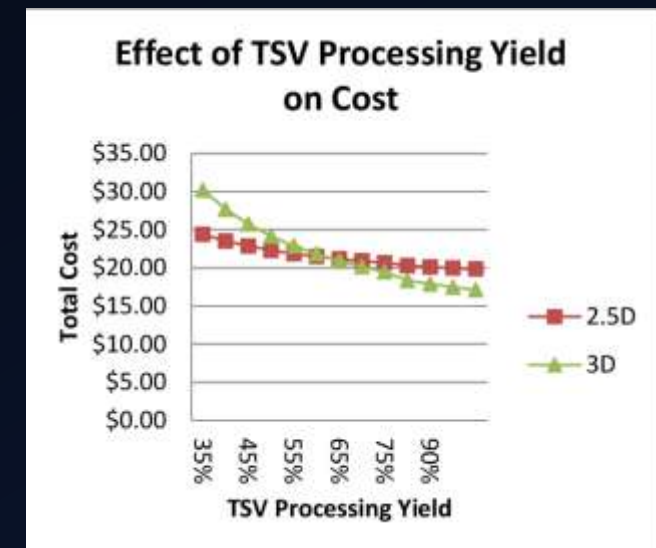

Figure 9.2 Cost Comparison of 2.5D and 3D TSV [13]
- In Figure 9.2 assesses the cost between 2.5D and 3D TSV technology. The evolving 3D TSV technology grows to be cheaper over time.